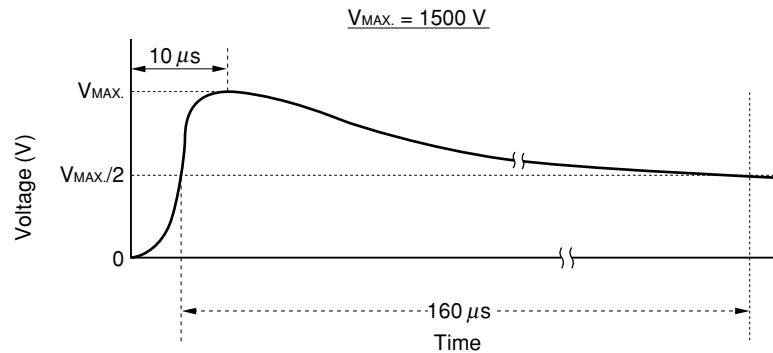

Figure 3.10 Surge Voltage Waveform
The EB2 series relay can withstand even if the surge voltage shown in Figure 3.10 is applied (1) between open contacts, (2) between coil and contact, or (3) between adjacent contacts.
If a lightning surge is applied between the closed contacts, a current whose value is determined by the impedance of the route connected to the contacts may flow. This current may be referred to as a “surge current”, and Figure 3.10 and Table 3.3 show the resistance of the EB2 series relay to the surge current. Figure 3.10 shows the waveform of the applied surge current. Table 3.3 shows the values of the current the relay can withstand. The relay is damaged by burning and malfunctions when a current higher than 220 A is applied to it.